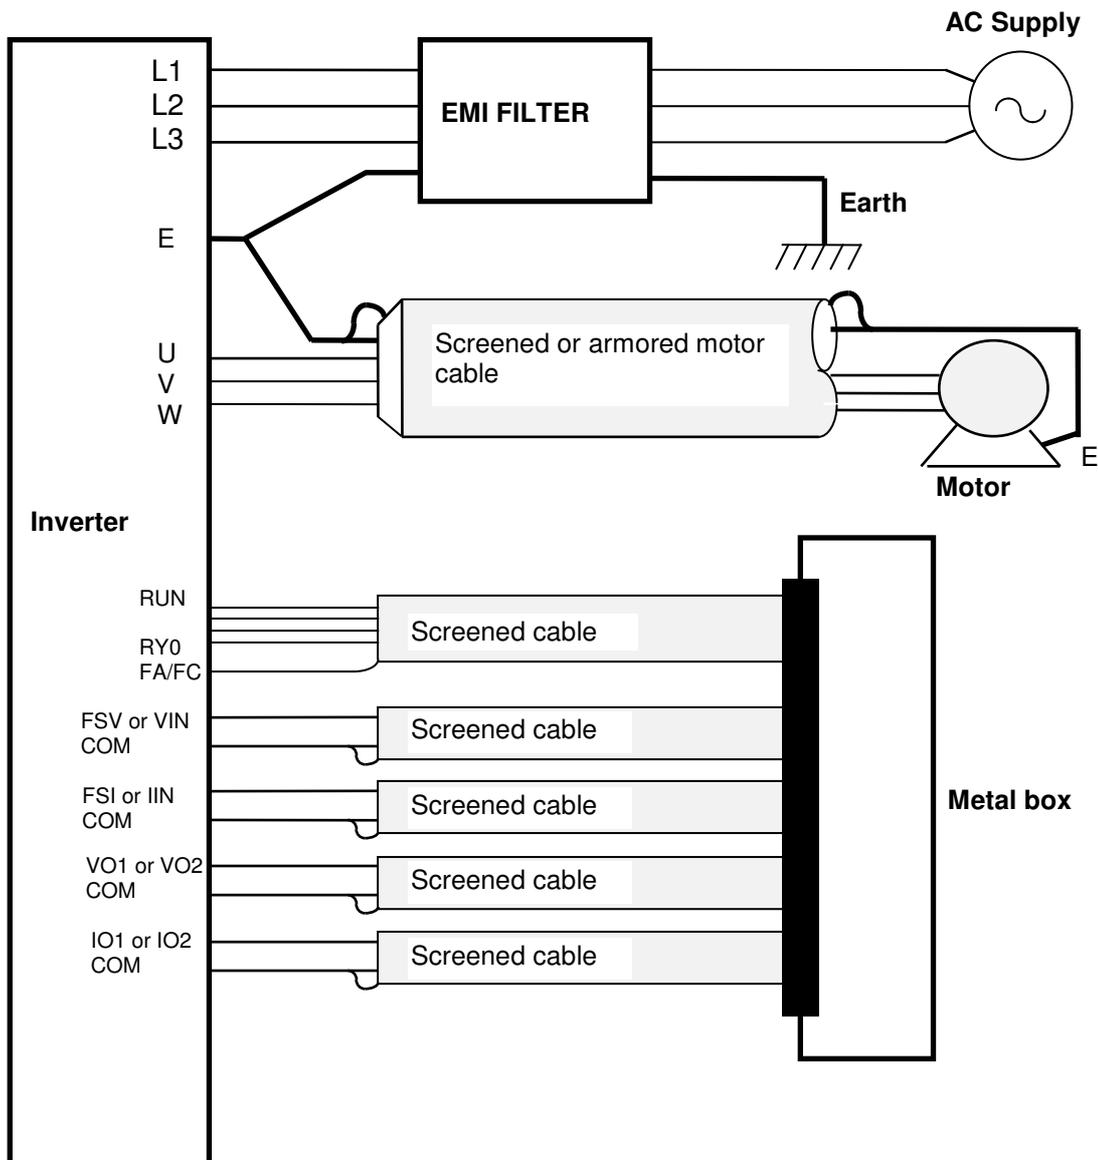

Fig. 13-1 Installation (Stand-alone)
This Instruction details how to meet the EMC directives (89/336/EEC) with *Axpert-Eazy*. It is important to understand before installation and operation of drive. The *Axpert-Eazy* is designed to meet the EMC directives and are suitable for use in the Industrial Environments. These drives have been tested with the power cables and control leads connected as shown in Fig. 13-1. If these drives are connected with fewer control leads than these examples, it may be possible to reduce installation costs by using ordinary cables rather than screened cables which are recommended in this manual. It is strongly advised however that a compliance test should be performed under the actual operating conditions to certify that the system complies with the relevant EMC requirements. If the drives are used with any of the optional cards, you must provide suitable extra measures and must certify through a test that the product, system or installation complies with the relevant EMC requirements.
- ✓ The output cable from the drive must be screened or armored and the screen or armor must be connected to the earth as shown in fig. 13-1
- ✓ Use a 0.13mm² (AWG 26) to 0.8mm² (AWG 18) wire for wiring to the control circuit and should be screened if they are used for a speed setting circuitry, analogue signal circuitry for metering, or relay signal circuitry. The screen should be connected to the drive's earth or COM terminal only (refer to Fig. 13-1)